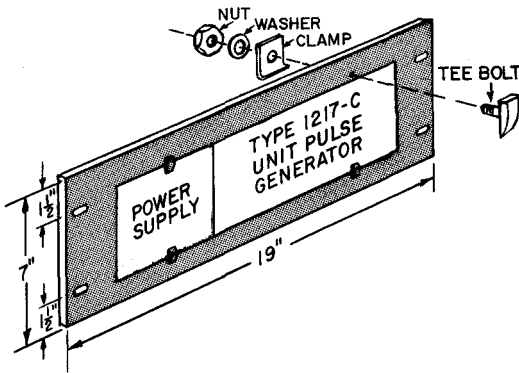

Figure 2-3. Rack-mounting the Type 1217-C/ power supply combination by means of a Type 480-P4U3 Relay-Rack Adapter Set.
- b. Mount the instruments in the adaptor panel by means of the tee bolts and associated hardware as shown in Figure 2-3.